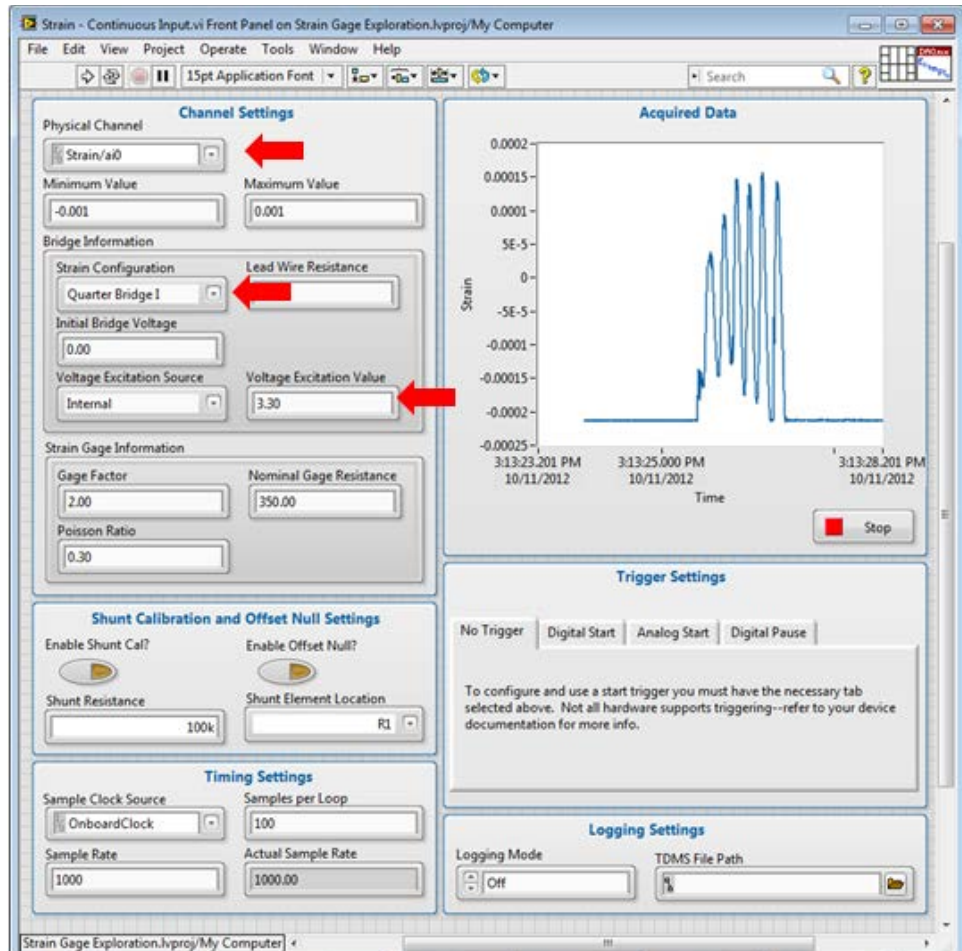

Figure 22. The DAQmx examples are built to give you a solid starting point for your programs. Use them as a starting point.
41. Change the *Physical Channel* to **Strain/ai0** (or the channel your strain gage is connected to), the *Strain Configuration* to **Quarter Bridge I** and the *Voltage Excitation Value* to **3.3**. See Figure 22 for reference.